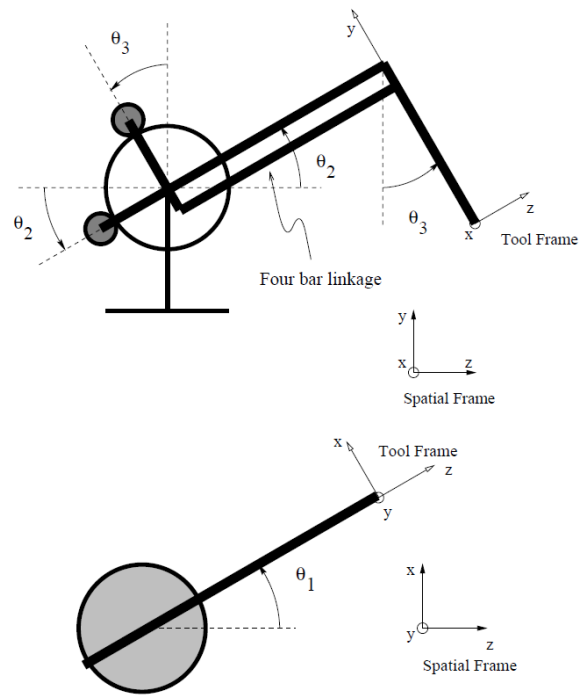

Figure 2: Side and top views
- 7) Show the animated model of the robotic arm while it follows the desired path (show the side and top views of the robot simultaneously as in Figure2, show the desired path in black color, show the incremental movements of the end-effector point in red color)